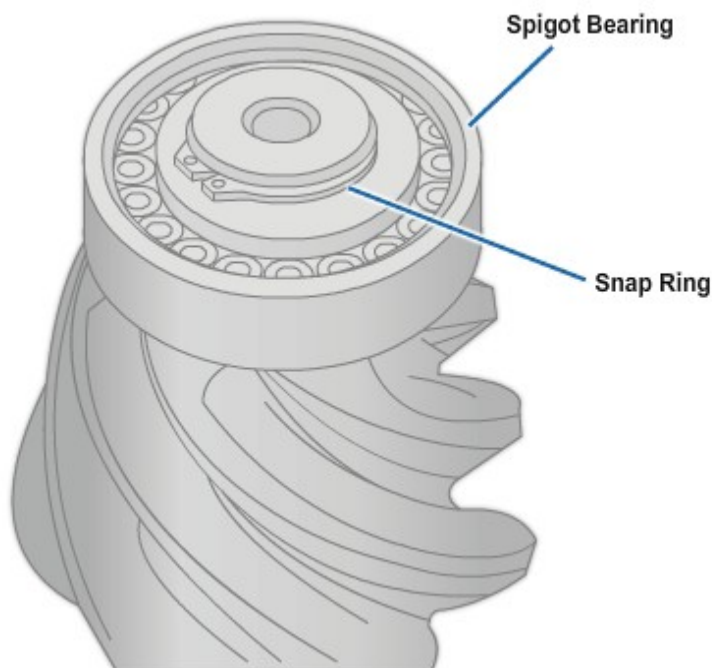

Figure 8-79 – A snap ring secures the spigot bearing to the pinion shaft.
9. Remove the snapping from the end of the drive pinion (*Figure 8-79*).